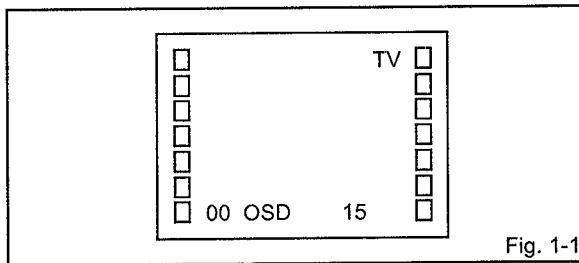

Fig. 1-1
1. In the condition of NO indication on the screen. Press the VOL. DOWN button on the set and the Channel button (**9**) on the remote control for more than 1 second to appear the adjustment mode on the screen as shown in Fig. 1-1.
4. Activate the adjustment mode display of Fig. 1-1 and press the channel button (**02**) on the remote control to select "RF.AGC".
3. Activate the adjustment mode display of Fig. 1-1 and press the channel button (**01**) on the remote control to select "CUT OFF".
4. Activate the adjustment mode display of Fig. 1-1 and press the channel button (**10**) on the remote control to select "R.BIAS".